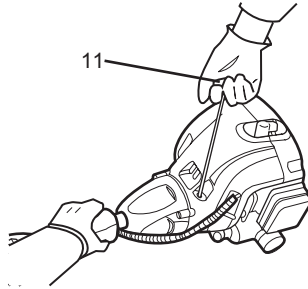

Fig.7
- > The recoil starter handle (11) is positioned at the front of the engine.
- > Pull on the recoil starter handle (11) to start the engine (Fig. 7).